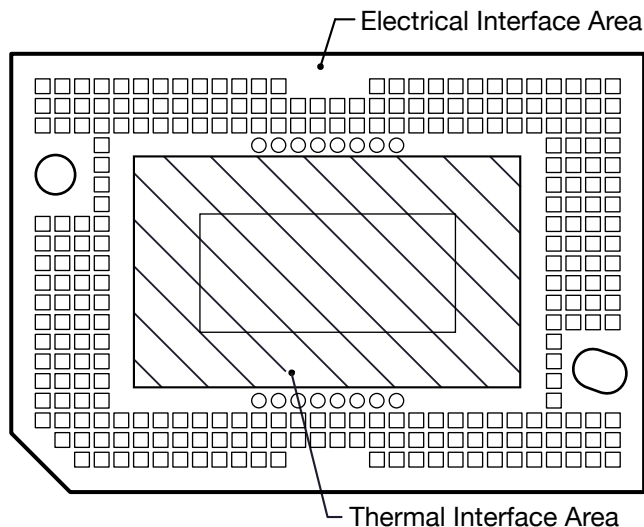

Figure 5-7. System Mounting Interface Loads
(1) Uniformly distributed within area shown in Figure 5-7.